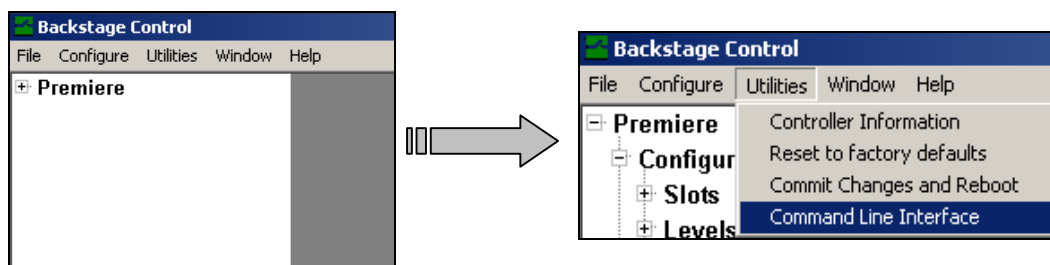

FIGURE 140: Expanding The Tree Directories
- 1) In the main menu bar, access the Command Line Interface directory by clicking on Utilities (see Figure 140).